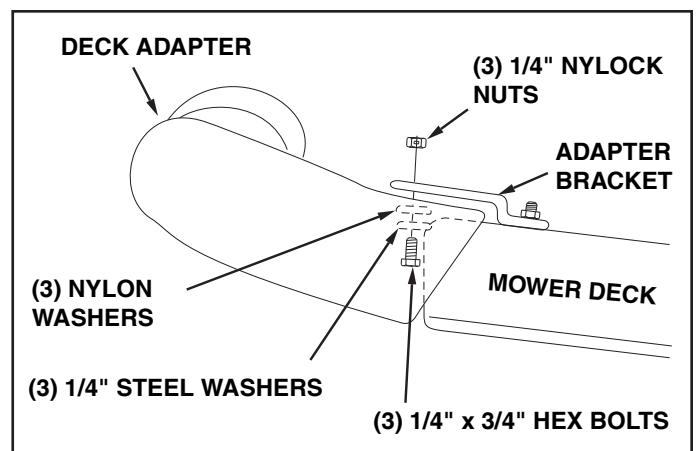

FIGURE 27
- With deck adapter positioned correctly over the discharge opening, use the adapter bracket as a template and drill three 9/32" diameter holes in the top of the deck adapter. See figure 27.
- Bolt deck adapter to bracket using three 1/4" x 3/4" bolts, nylon washers, 1/4" flat washers and 1/4" lock nuts. Nylon washers should be against the inside of the deck adapter. See figure 27.